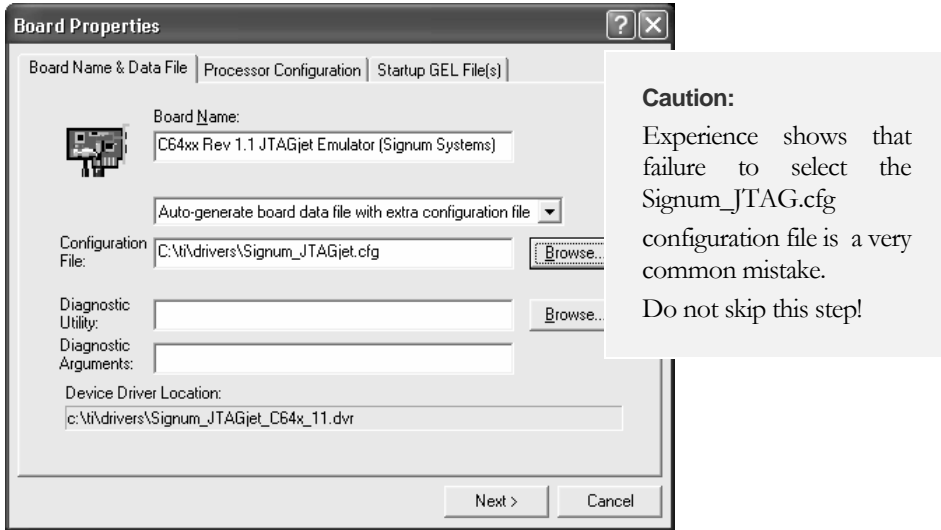

FIGURE 11 Selecting the Signum driver configuration file.
2. After the Emulator is selected, the Board Properties dialog box will appear (Figure 11). Select the Board Name & Data File tab and verify that the correct board type is displayed in the Board Name text box.. Next, choose the Auto-generate board data file with extra configuration file